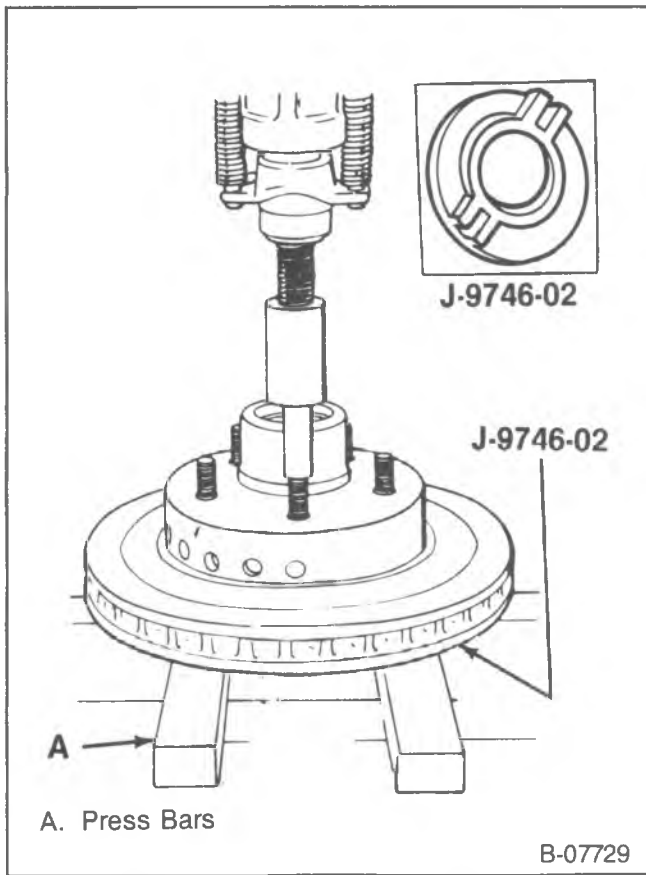

Figure 13—Removing the Hub Bolts
2. Wheel hub bolts (74) with a press.
- Support the hub/rotor (81) using J-9746-02 and press bars (figure 13).